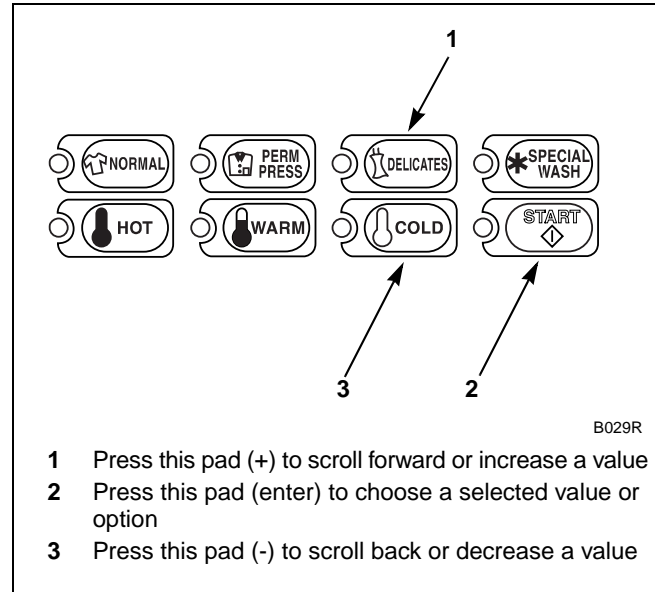

Figure 203
5. Press the DELICATES (+) or the COLD (-) keypad to increase or decrease the current output value displayed in the VFD to the desired output value. Refer to *Figure 203*.